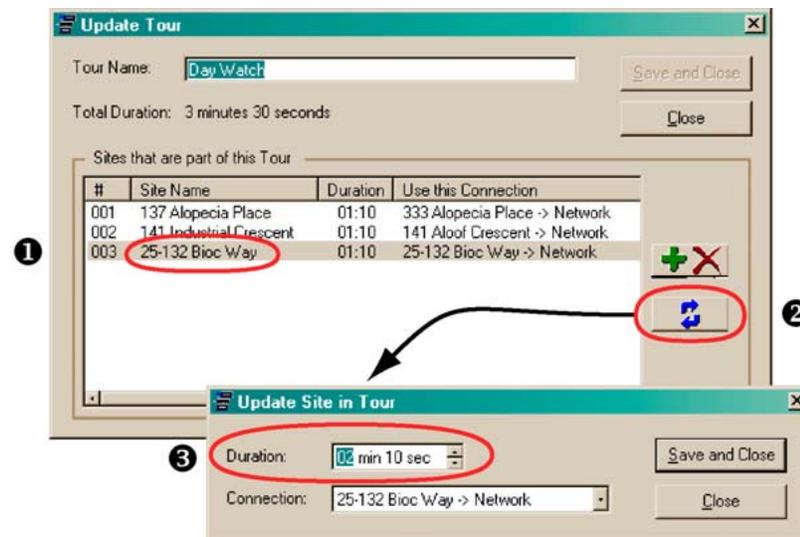

Fig. 9. Customizing the amount of time that a Multi-Media unit is toured.
- select a site’s name and click . See figure 9.